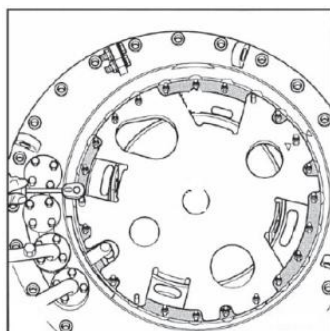

Figure 17
- (3) Remove the fastening nut (5 M8 nuts, No. 13 wrench) on the switch support body support plate (no red area) (Fig. 17).